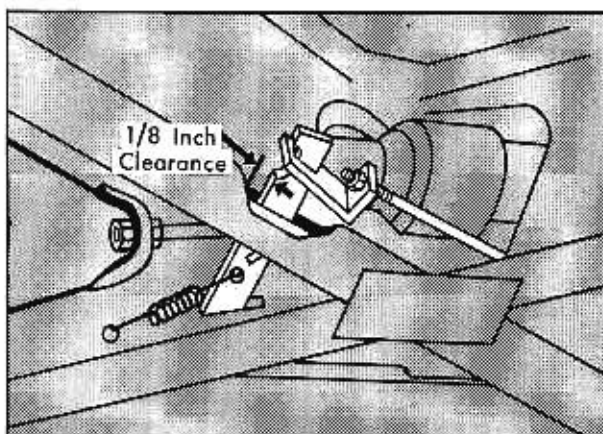

Fig. 9-7 Brake Relay Adjustment
3. Check for proper tension of intermediate cable which may be determined by measuring the distance between the rear edge of the rear relay lever and the end of the slot in the frame X-member. Fig. 9-7. This distance should be 1/8".